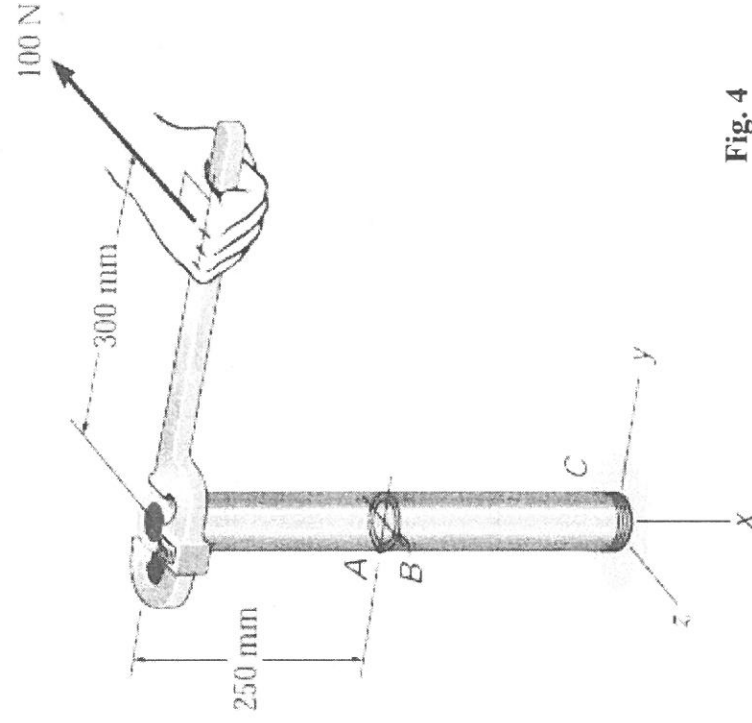

Fig. 4
4. As shown in Fig. 4, the steel pipe has an inner diameter of  $70 \text{ mm}$  and an outer diameter of  $80 \text{ mm}$ . If it is fixed at C and subjected to the horizontal  $100\text{-N}$  force acting on the handle of the pipe wrench at its end, determine the principal stresses in the pipe at point A, which is located on the surface of the pipe. (24%)